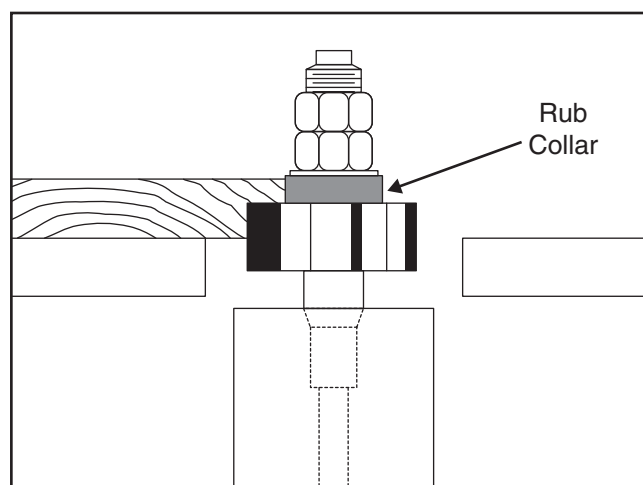

Figure 37. Cutting with the rub collar above the cutter.
2. **Rub collar above the cutter:** When the rub collar is used above the cutter, the cut cannot be seen (see **Figure 37**). This offers some advantage—the stock is not affected by slight variations in thickness and accidental lifting will not damage the workpiece. Simply correct any variation in height by repeating the operation.